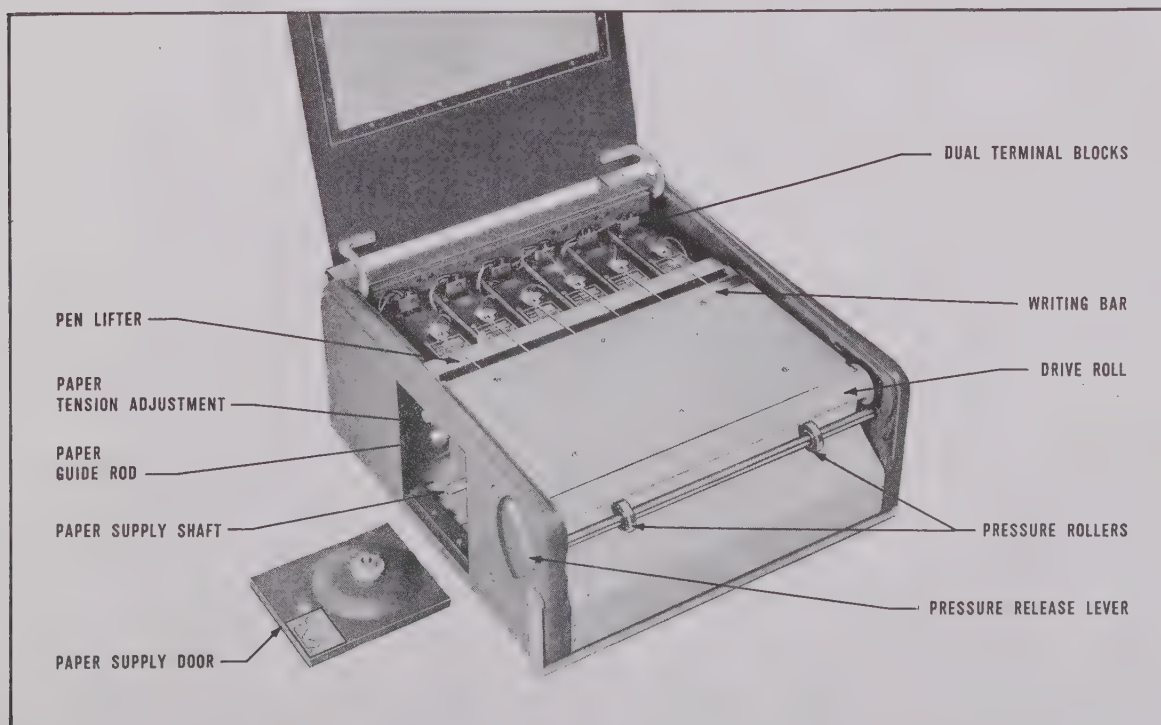

Fig. 3. Brush Portable Six Channel Oscillograph, Model RD 2361 00 with Cover Open
1. Remove the PAPER SUPPLY DOOR, Fig. 3.
4. Lift the pens or styli with the PEN LIFTER, Fig. 3.
7. Release the tension on the PRESSURE ROLLERS (Figs. 3 and 4) by means of the PRESSURE RELEASE LEVER, Fig. 3.
8. Pull the chart paper over the writing table and DRIVE ROLL, Figs. 3. and 4.
2. Plug the lead from the stylus into one side of the DUAL TERMINAL BLOCK above and between adjacent PENMOTORS. Fig. 3. The extreme left and right terminals of the extreme left and right DUAL TERMINAL BLOCKS are to be used exclusively for the LEFT and RIGHT EVENT MARKER stylus leads.
1. Release the tension of the PRESSURE ROLLERS. Fig. 3. This is to keep the chart paper from moving.